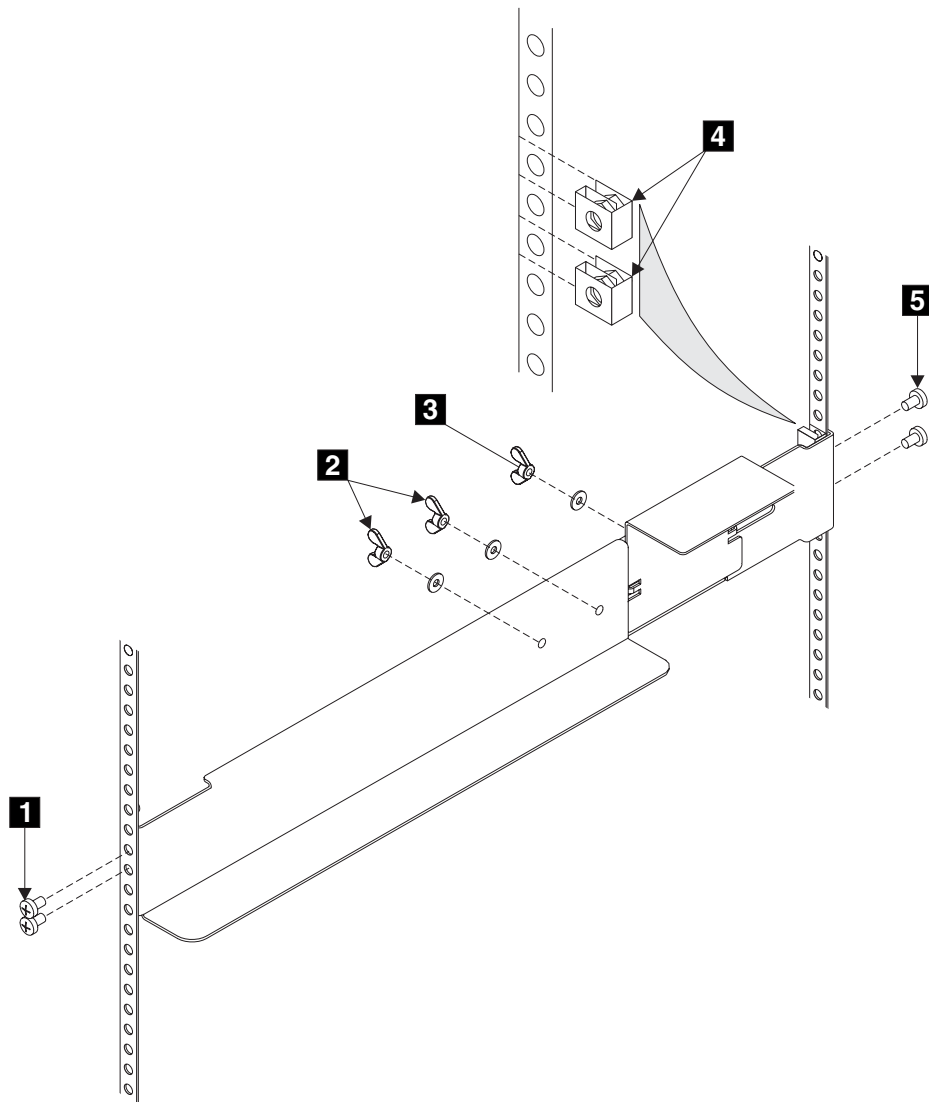

Figure 25. Installing support rails for a 2145 UPS into the rack
1. Attach nut clips **4** to the rack (see Figure 25). These nut clips must align with the second and fourth holes of the support rail flange.